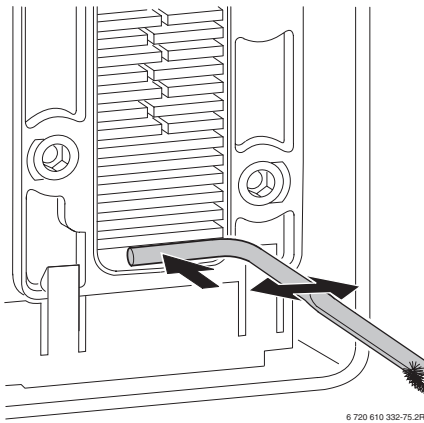

Fig. 52
- Flush the heat exchanger from the top. Refer to fig. 52.